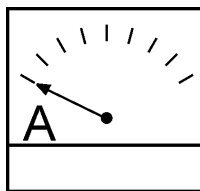

Figure 47. Ammeter (No Load)
8. The ammeter (Figure 47) will indicate **zero amps** with no load applied. When a load is applied, the ammeter will indicate the amount of current that the load is drawing from the generator.